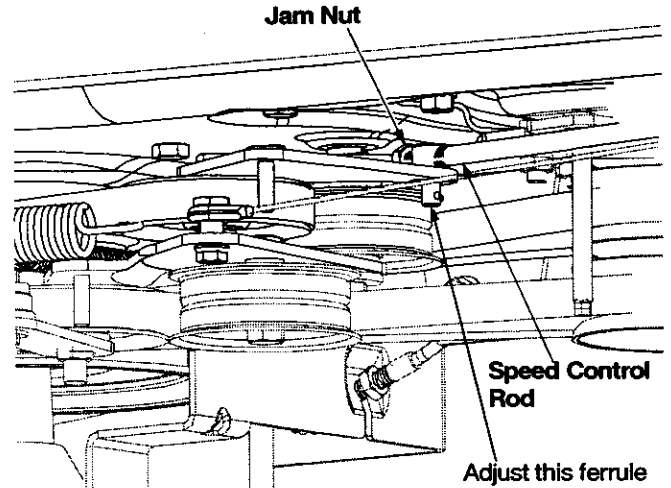

Figure 21
- Remove the jam nut that secures ferrule to the speed control rod. See Figure 21 .
- If the vehicle cannot attain all speeds, thread the rod through the ferrule towards the front of the mower, thus shortening the rod. See Figure 21 .
- If the vehicle shows belt drag, thread the rod through the ferrule towards back of the vehicle, thus lengthening the rod. See Figure 21 .